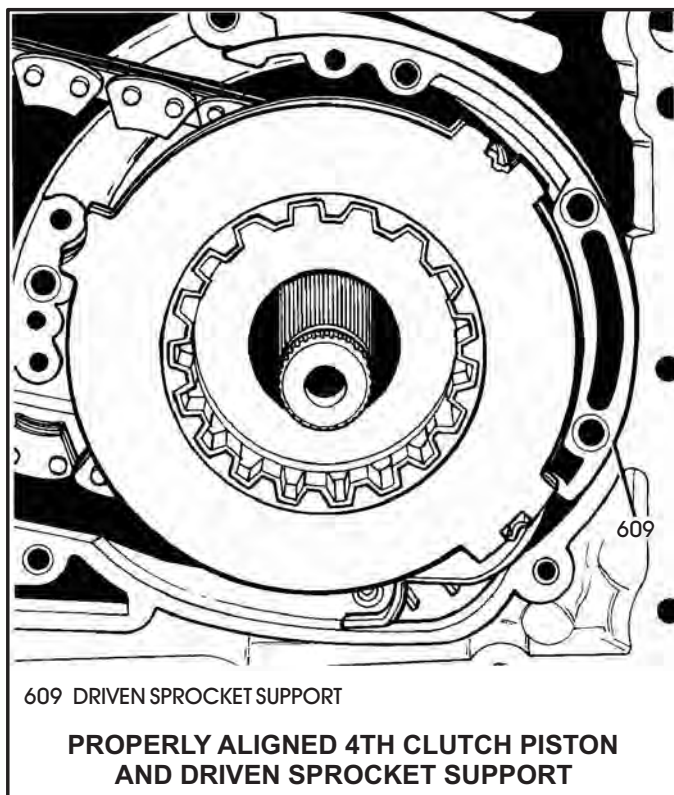

Figure 192
58. Align the 4th clutch piston in driven sprocket support, as shown in Figure 192.
59. Align the driven sprocket support, as shown in Figure 192.